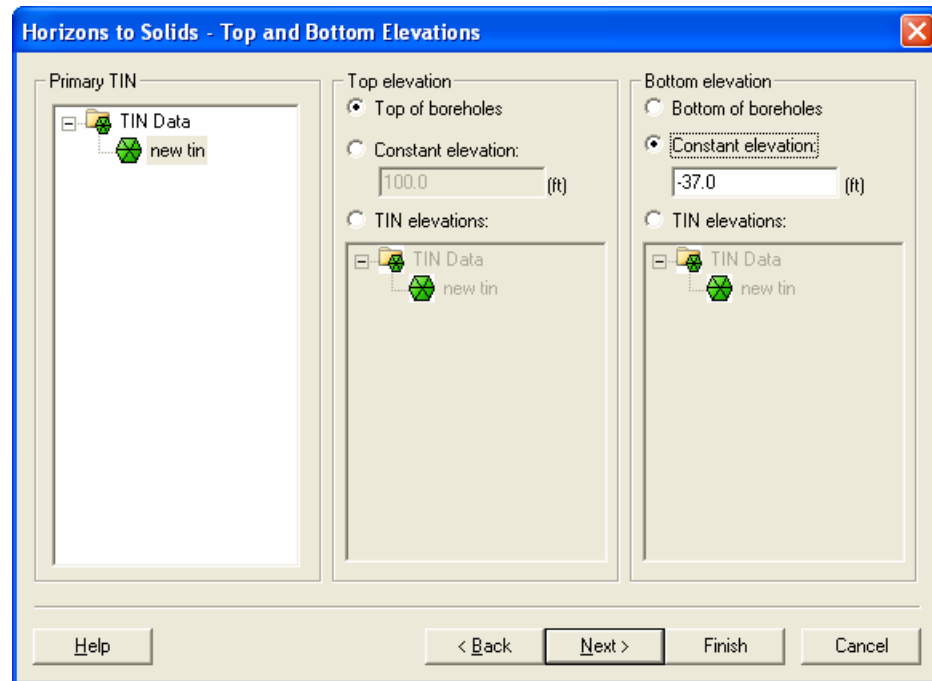

Figure 4.1. Horizons to Solids wizard, step 2.
4. In the second step, set the dialog options as shown in Figure 4.1 below and click *Finish*.